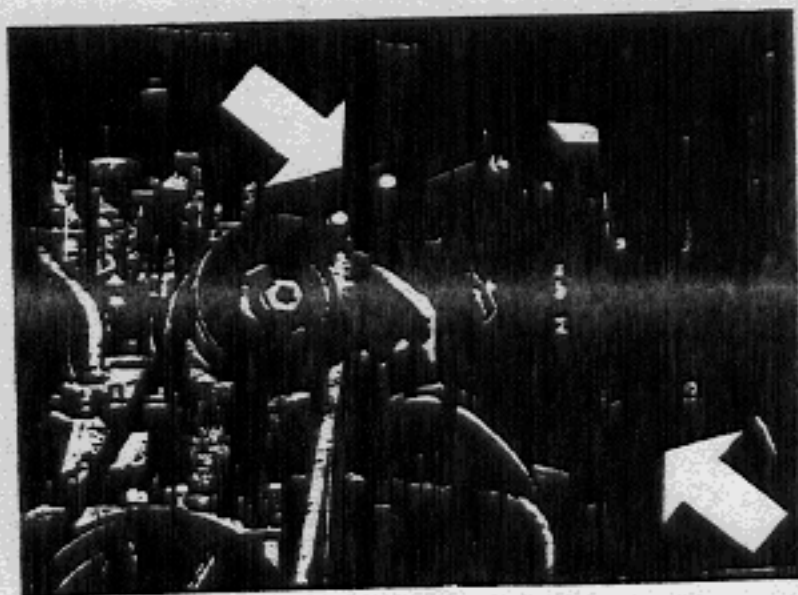

Fig. 1
- 2 - Detach air cleaner from the bracket on the fan housing and swing it 180° to the right. The air cleaner is secured in the new position with the bracket supplied (Fig. 1).